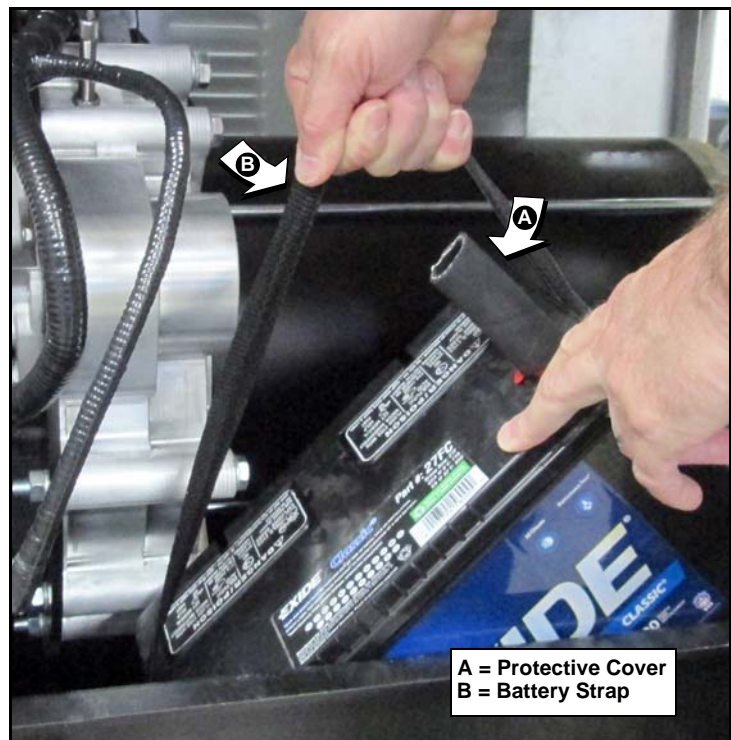

Figure 6-6. Install Battery (2.3L Models)
3. Install rubber protective cover over battery positive (+) terminal. See A of Figure 6-6.
5. Grasp battery strap next to battery positive (+) terminal, and lift battery. See B of Figure 6-6.